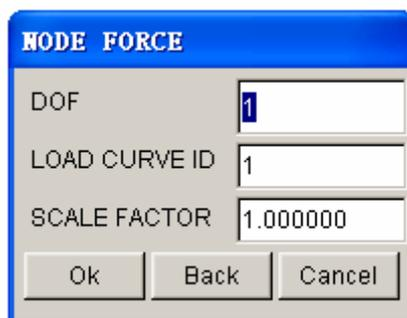

Figure 5.6.3 Define Node Force
- Key in DOF, LOAD CURVE ID and SCALE FACTOR in the NODE FORCE dialog box as illustrated in Figure 5.6.3.